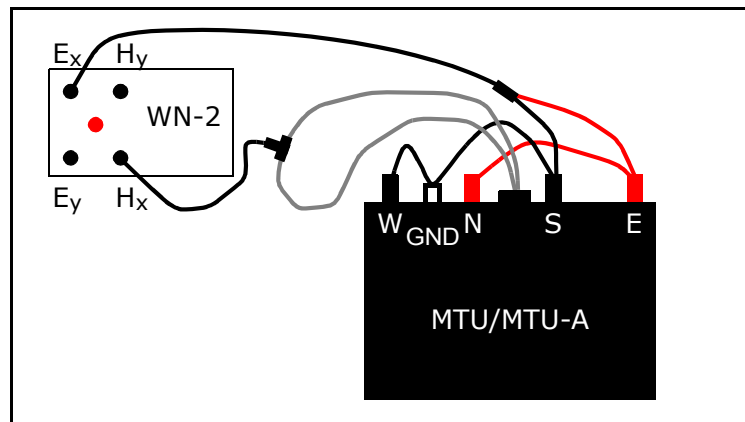

Fig. C-4: Setup for parallel white noise test. (Battery and GPS antenna omitted for clarity.)
3. Connect the lugs on the red wire of the cable to the red terminals of the receiver. (See Fig. C-4.)